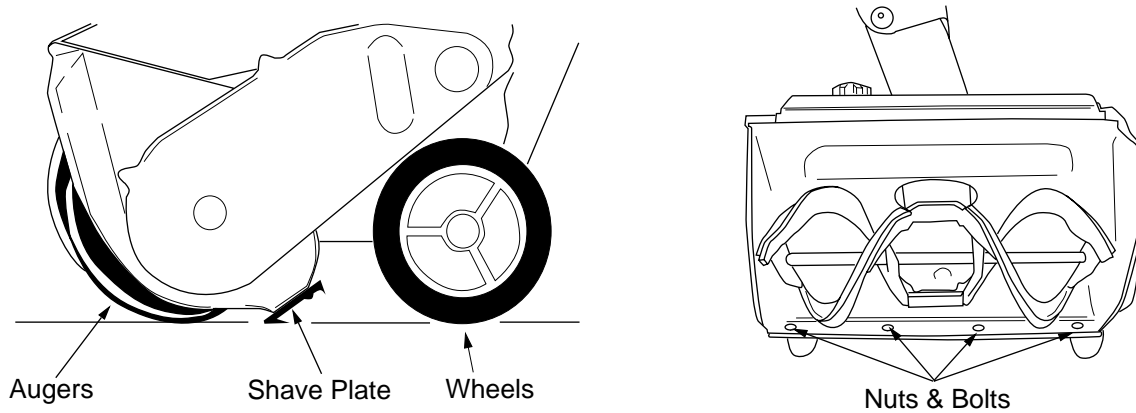

Figure 13
1. To check the adjustment of the shave plate, place the unit on a level surface. See Figure 13. The wheels, shave plate and augers should all contact the level surface. If the shave plate is adjusted too high, the snow may blow under the housing. If the shave plate wears excessively, the shave plate may be adjusted too low.
2. To adjust, tip the snow thrower back so it rests on the handle. See Figure 13. Loosen the lock nuts and bolts which secure the shave plate to the housing. Move the shave plate to desired position and retighten the nuts and bolts. Make certain all nuts and bolts are tightened securely.
The shave plate is subject to wear. It should be checked periodically. There are two wearing edges and the shave plate can be reversed. Refer to Figure 13.